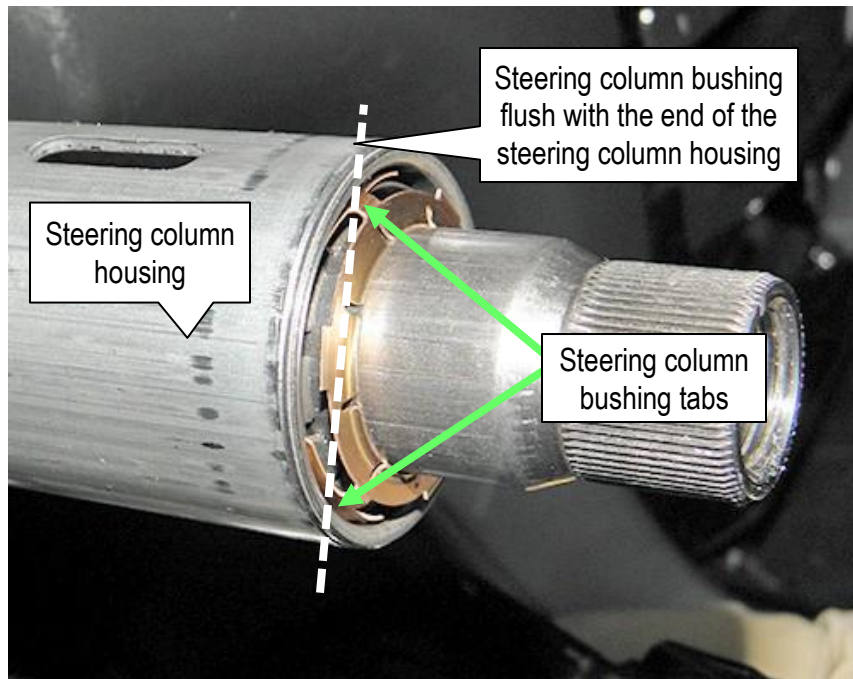

Figure 19
21. Tuck the three (3) steering column bushing tabs into the steering column housing, and then push the steering column bushing into the steering column housing until it is flush with the end, as shown in Figure 19.
NOTE: Only two of the three (3) steering column bushing tabs are shown in Figure 19. The third steering column bushing tab is hidden behind the steering column shaft.